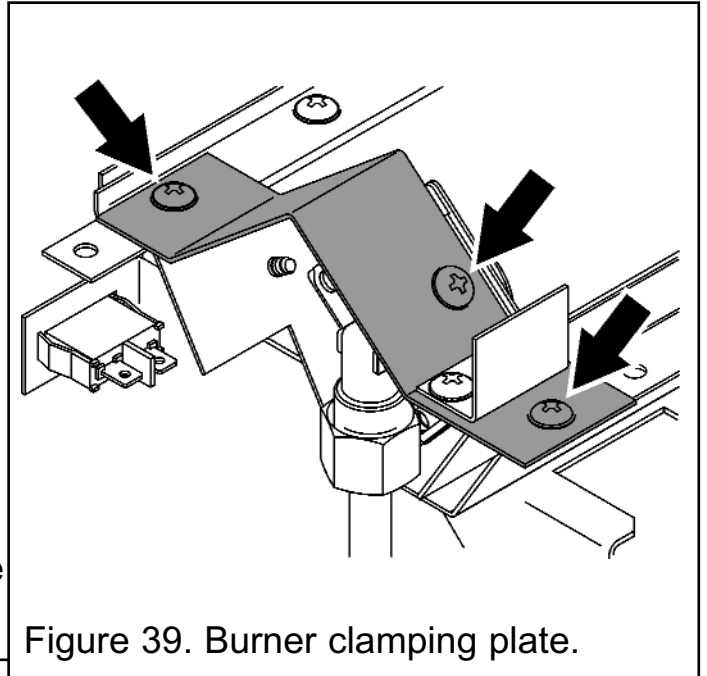

Figure 39. Burner clamping plate.
2. Unscrew and remove the burner clamping plate from the upper right hand side of the burner. Remove all three screws for ease (See figure 39).